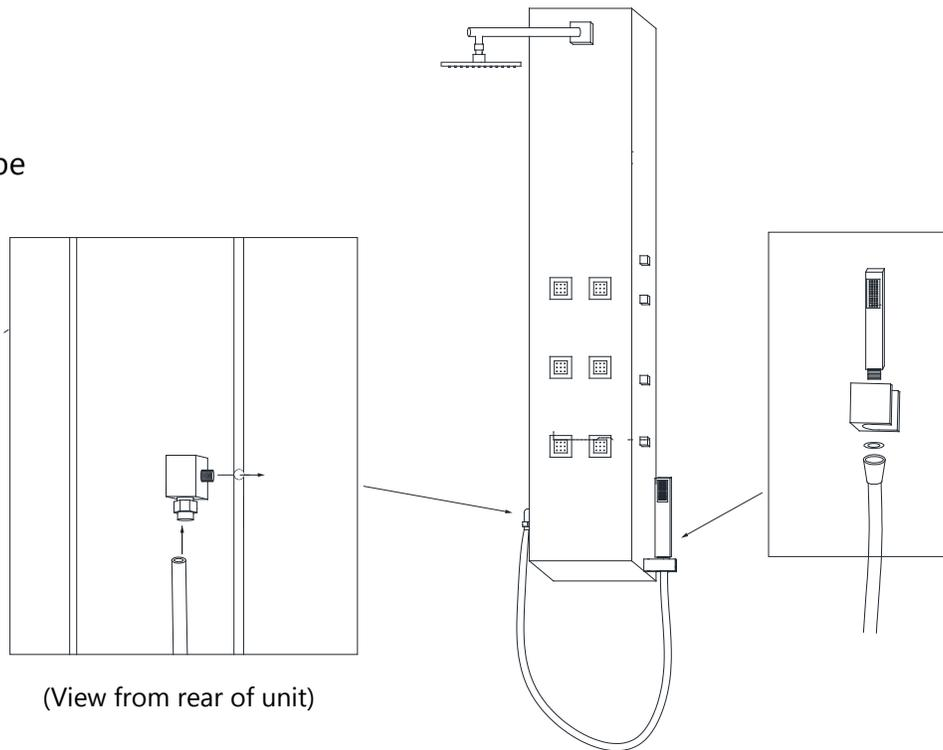

Fig 2
2. Assemble the **Handshower (#06)**, **Shower Holder (#04)** and the **Shower Supply Hose (#07)** according to the diagrams in **Fig 2**.